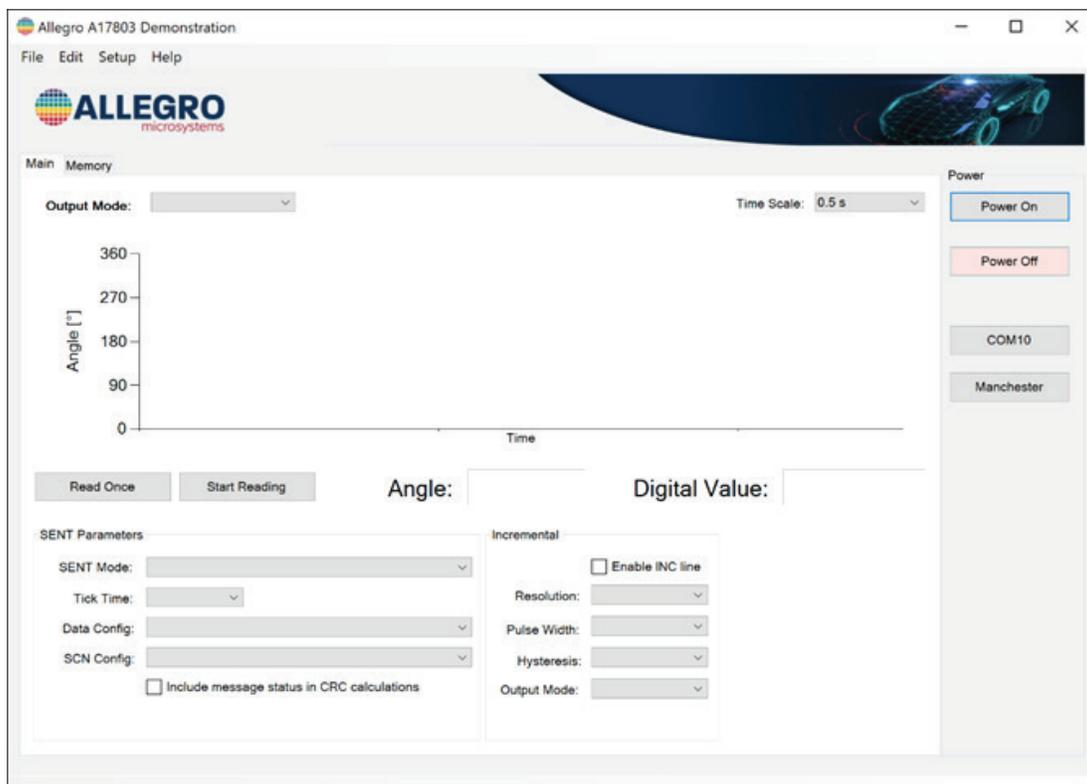

Figure 4: Application When COM Port Is Detected
- If the sidebar on the right side of the GUI displays the correct COM port number and a red Power Off button (as shown in Figure 4), the application successfully detects the COM port.
5. After the application detects the COM port (as shown in Figure 4), click the Power On button to power up the A17803.